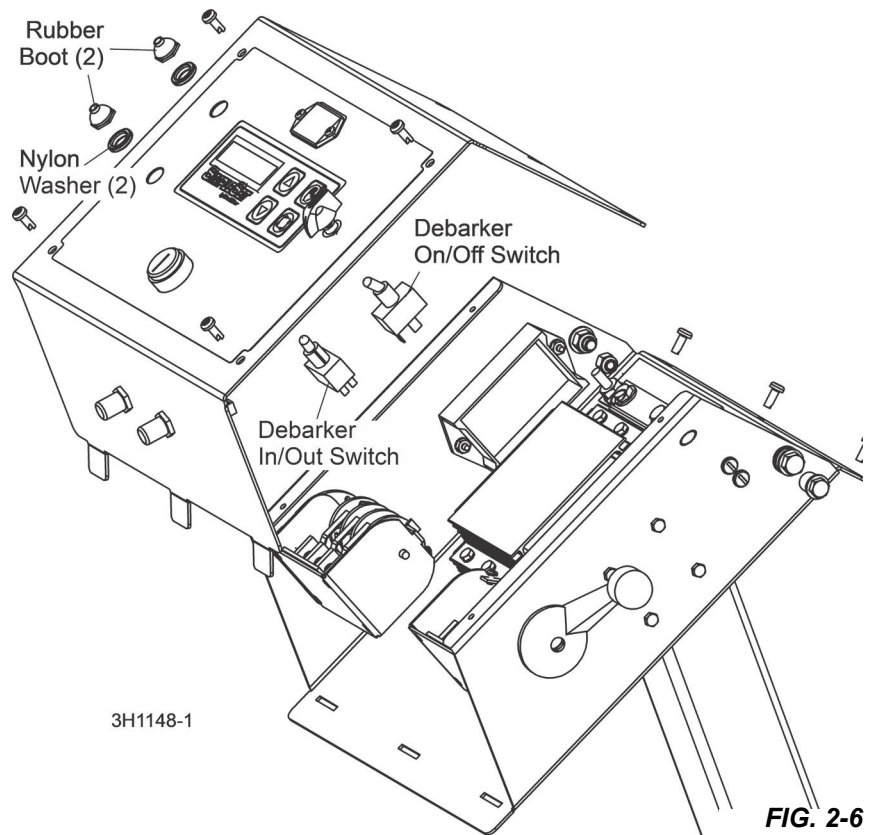

FIG. 2-6
3. Install the provided debarker on/off and in/out switches, 1/16" nylon washers, and rubber boots in place as shown. See **Fig. 2-6**.